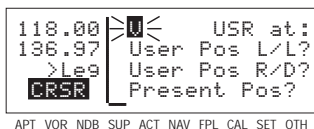

Figure 5-17
2. Use the right inner knob to select the first character of the identifier (figure 5-17). Remember that when the cursor is on, the right inner knob changes the character and the right outer knob moves the cursor around.